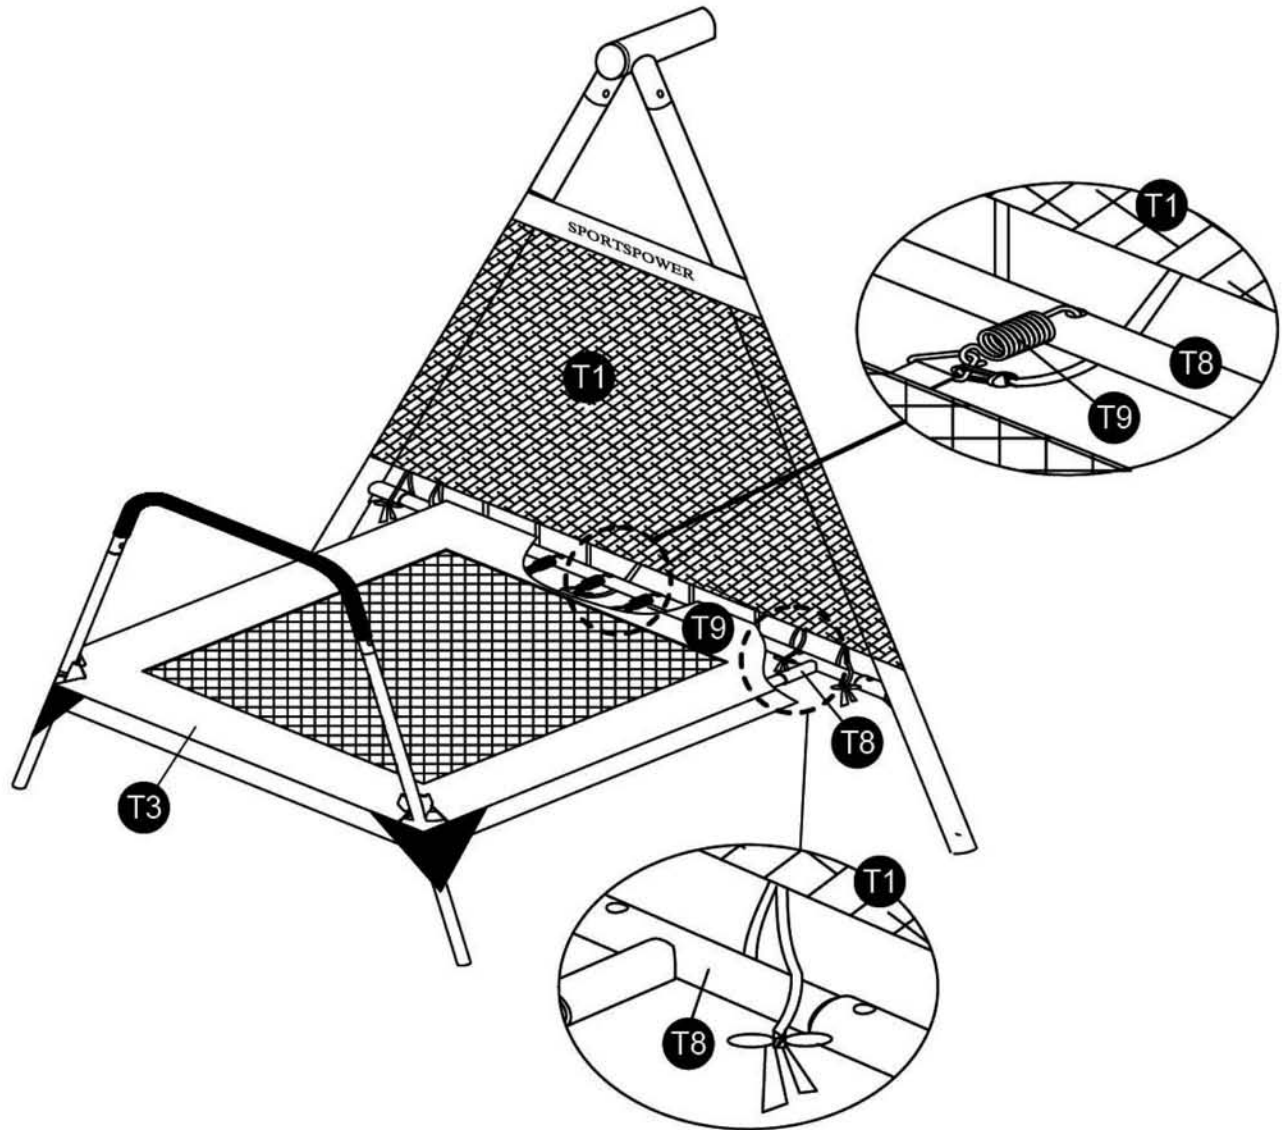

FIGURE 9
- Tie all the straps sewn on T1 around T8 as shown in FIGURE 9.